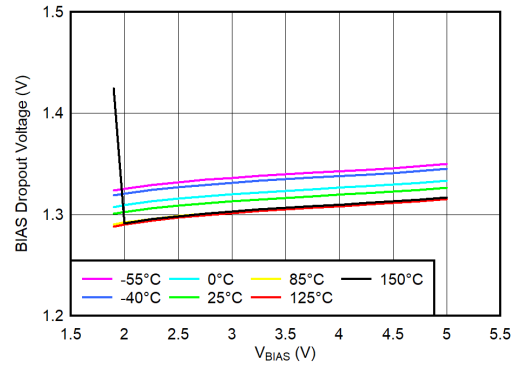

FIG 6-29. V_{IN} Dropout Voltage vs ($V_{BIAS} - V_{OUT}$) and Temperature (T_J)
- (1) Adjustable devices tested at 0.8 V; resistor tolerance is not taken into account.
(2) Dropout is defined as the voltage from V_{IN} to V_{OUT} when V_{OUT} is 3% below nominal.
(3) 3.25 V is a test condition of this device and can be adjusted by referring to Figure 6-29.